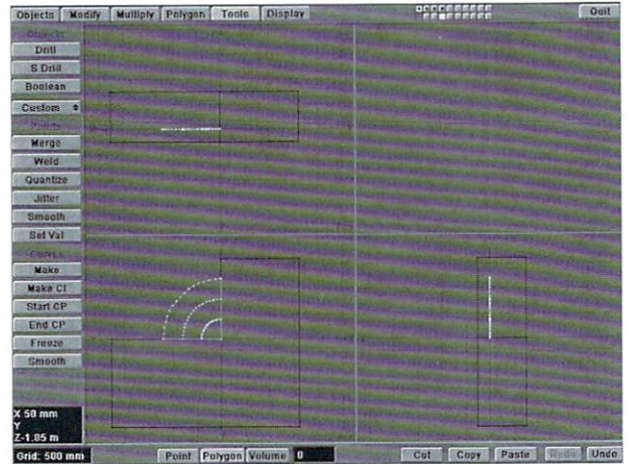

Figure 8: The results of a Boolean Subtract operation.
From the Boolean panel, click on Boolean and select Subtract. You should get three polygons representing each one of the three vents (Figure 8). You may also get stray polygons
- Select the layer with the disc, and place the L-shaped object in the background. Double-check to make sure that the surface normals for all three disc polygons are facing the correct way (the negative Z-axis, in this instance). From the Tools panel, click on Boolean and select Subtract. You should get three polygons representing each one of the three vents (Figure 8). You may also get stray polygons from the Boolean operation because your disc object is one-sided, not a closed volume. Disregard this and delete the unnecessary polygons.